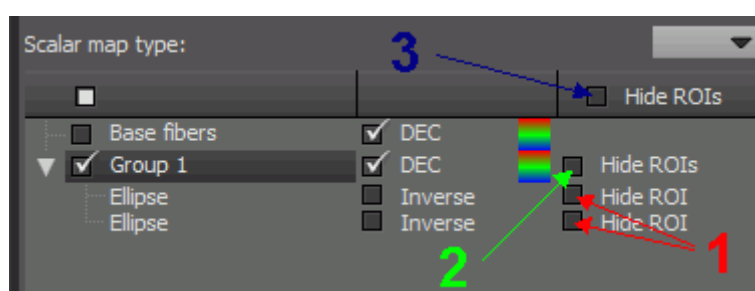

Figure 5.28: ROIs visibility
7. To hide ROI, check the **Hide ROI** box for this ROI (marked with number «1» in Fig. 5.28). To hide all the ROIs in the group, check the **Hide ROIs** box for this group (marked with number «2» in Fig. 5.28). To hide all the ROIs, check the **Hide ROIs** box in the header of the table (marked with number «3» in Fig. 5.28). The visibility of the ROI does not affect the visibility of the fibers.